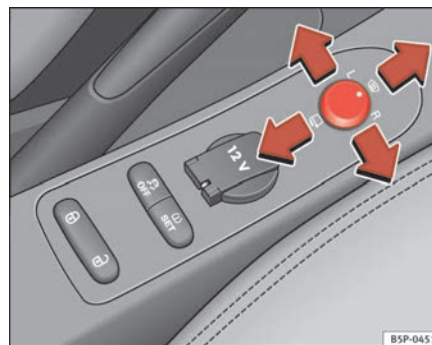

Fig. 86 Controls of exterior mirrors
1. Turn knob ⇒ fig. 86 to position **L** (left exterior mirror). ▶
- Turn the knob forwards to the central position ⇒ fig. 86  so that the heated rear view mirrors warm up and the heated wind-screen* in the wiper blade rest area is activated ⇒ page 120.
- Turn the control ⇒ fig. 86 to position  to fold in the exterior mirrors. You should always fold in the exterior mirrors if you are driving through an automatic car wash. This will help prevent damage.